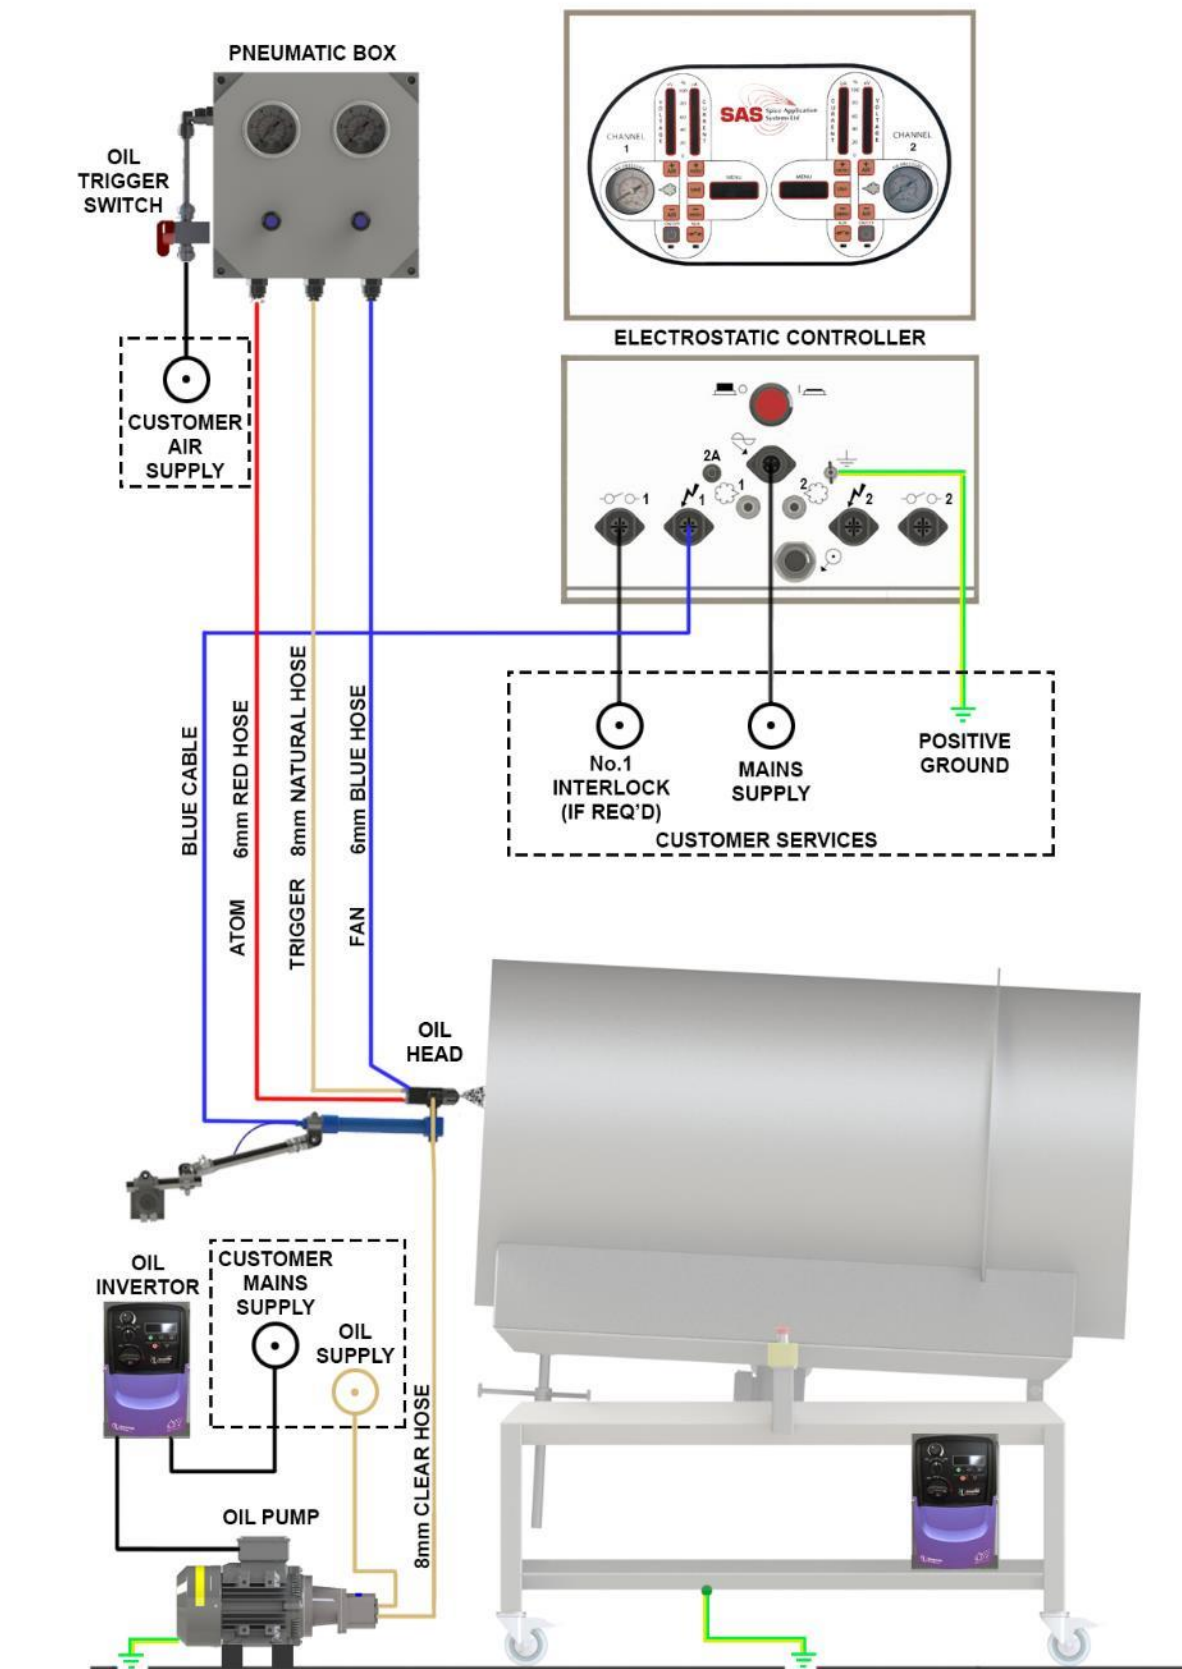
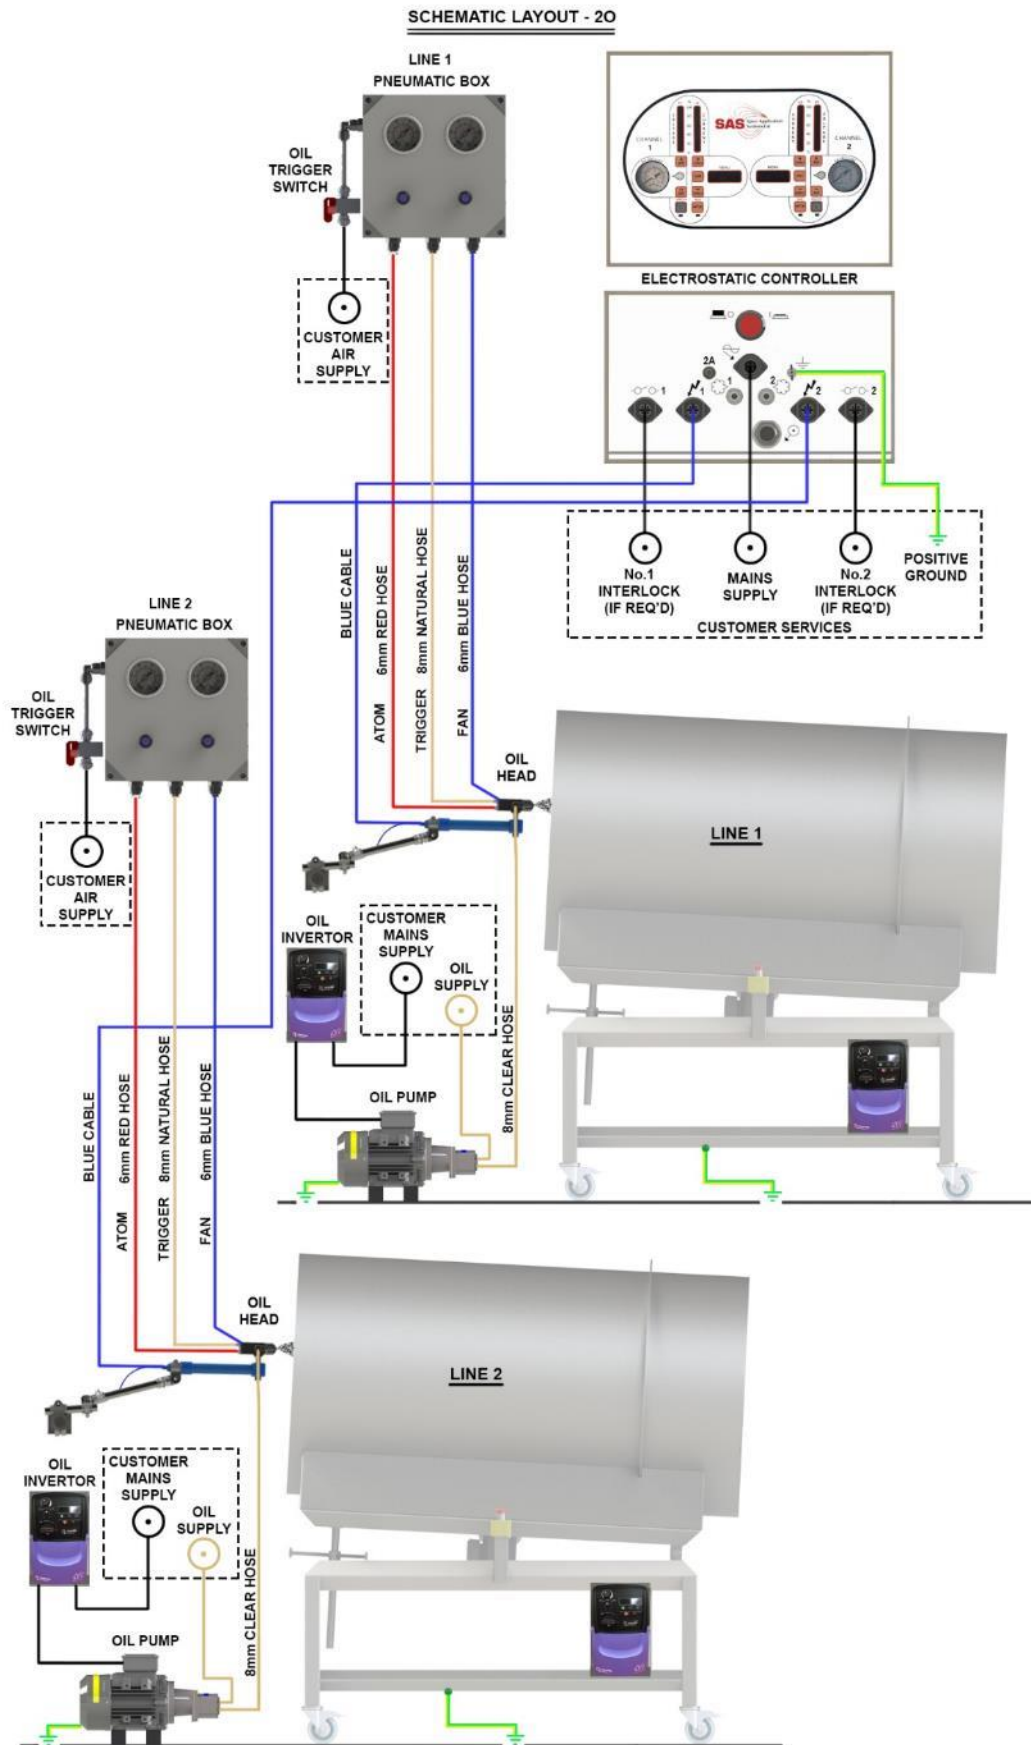

Fig 2
Fig 3
Note ! *An SAS 20 Assembly contains one common Electrostatic controller (see Page 10, Fig 3)*
25. For all Interconnection details of the equipment, please refer to page 9 - Fig 2 or page 10 - Fig 3 for your appropriate application.